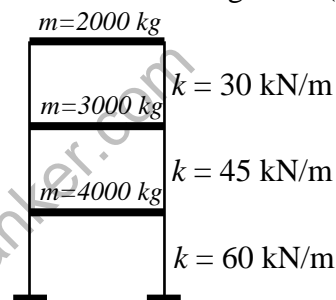

Figure 3 (a)
- 3 a) Draw the mode shapes of a building frame shown in Figure. 3 (a)